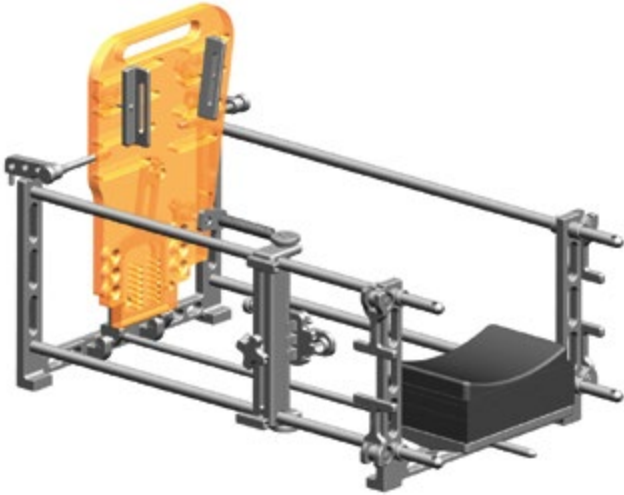
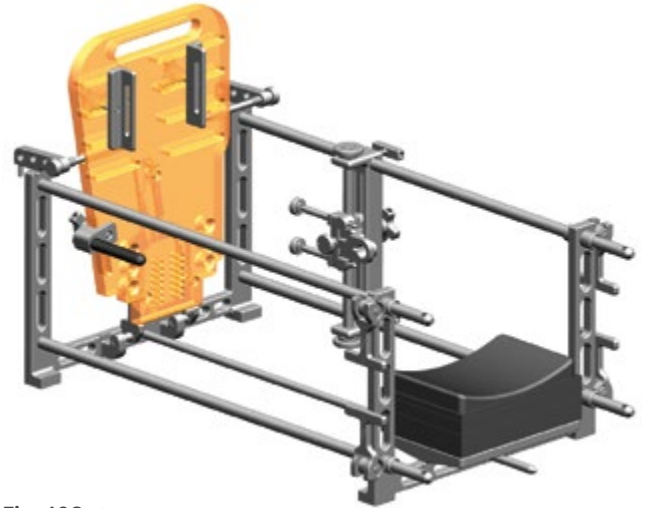

Fig. 107 Left Ankle
Fig. 108 Right Ankle
- ⓘ **Note:** Positioning of the Foot Plate, Talar Pin Connector and Lateral Cut Guide Assembly is different, depending on whether the surgery is performed on a left (Fig. 107) or a right ankle (Fig. 108). Left orientation is presented in these instructions.